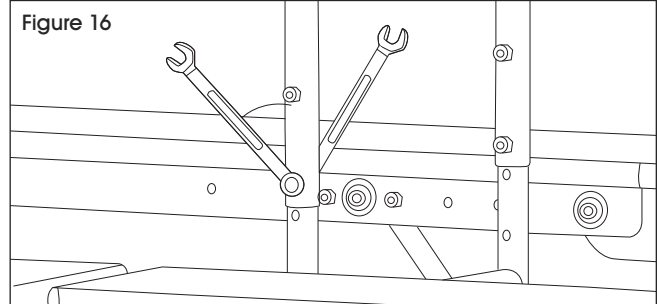

Figure 16
6. Insert bolts and refasten using nuts and 1/2" wrenches. Do not overtighten. Repeat on opposite center leg. (See Figure 16)